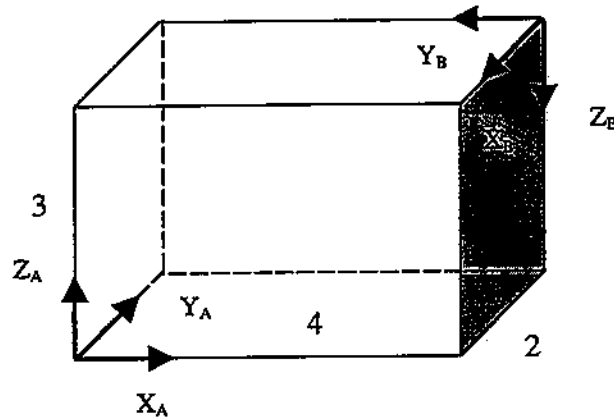

Figure 4. Frame Transformation
4. Referring to Figure 4, use three different approaches to give the value of ${}^A_B T$ (12 points).